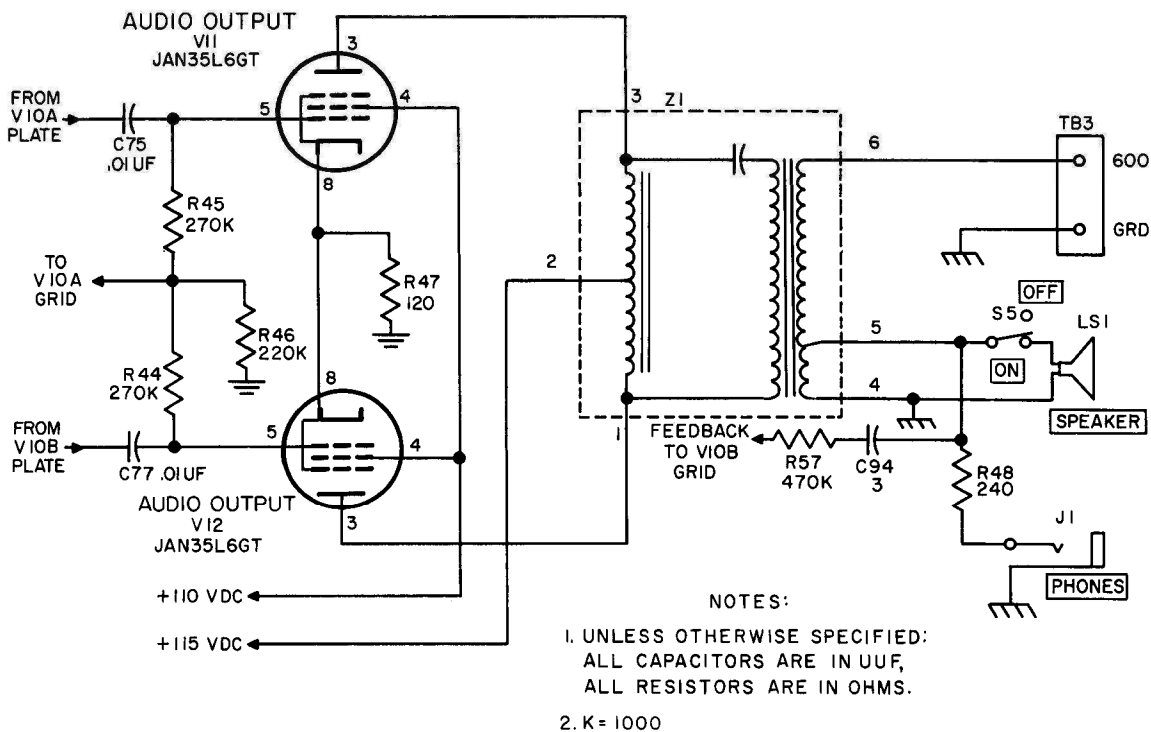

Figure 2-12. Audio Output Simplified Schematic Diagram
(3) The voltage from V10A appearing across R46 will oppose the voltage from V10B, thus reducing the voltage applied to the grid of V10A. This will regulate the voltage being applied to V10A and make the output of each stage substantially equal. Cathode bias for both stages is provided by resistor R40. Capacitor C74 is an audio frequency bypass. Resistor R43 and capacitor C76 form a plate decoupling network for V10A and V10B. Resistors R41 and R42 are plate load resistors and C77 and C75 are coupling capacitors. Capacitor C94 and resistor R57 apply positive feedback to the control grid of V10B to increase the high frequency gain of the audio amplifier.
k. AUDIO OUTPUT. (Figure 2-12)
(1) The audio frequency voltages present in the output of the audio amplifier and phase inverter are applied to push-pull audio output tubes V11 and V12. These tubes are power amplifiers and are capable of providing at least two watts of audio power to drive the self-contained speaker LS1, or external speakers.
(2) The signals from V10 are coupled to the grids of V11 and V12 by coupling capacitors C75 and C77. The grid voltage for V11 is developed across resistors R45 and R46. The grid voltage for V12 is developed across resistors R44 and R46. Cathode bias resistor R47 provides the